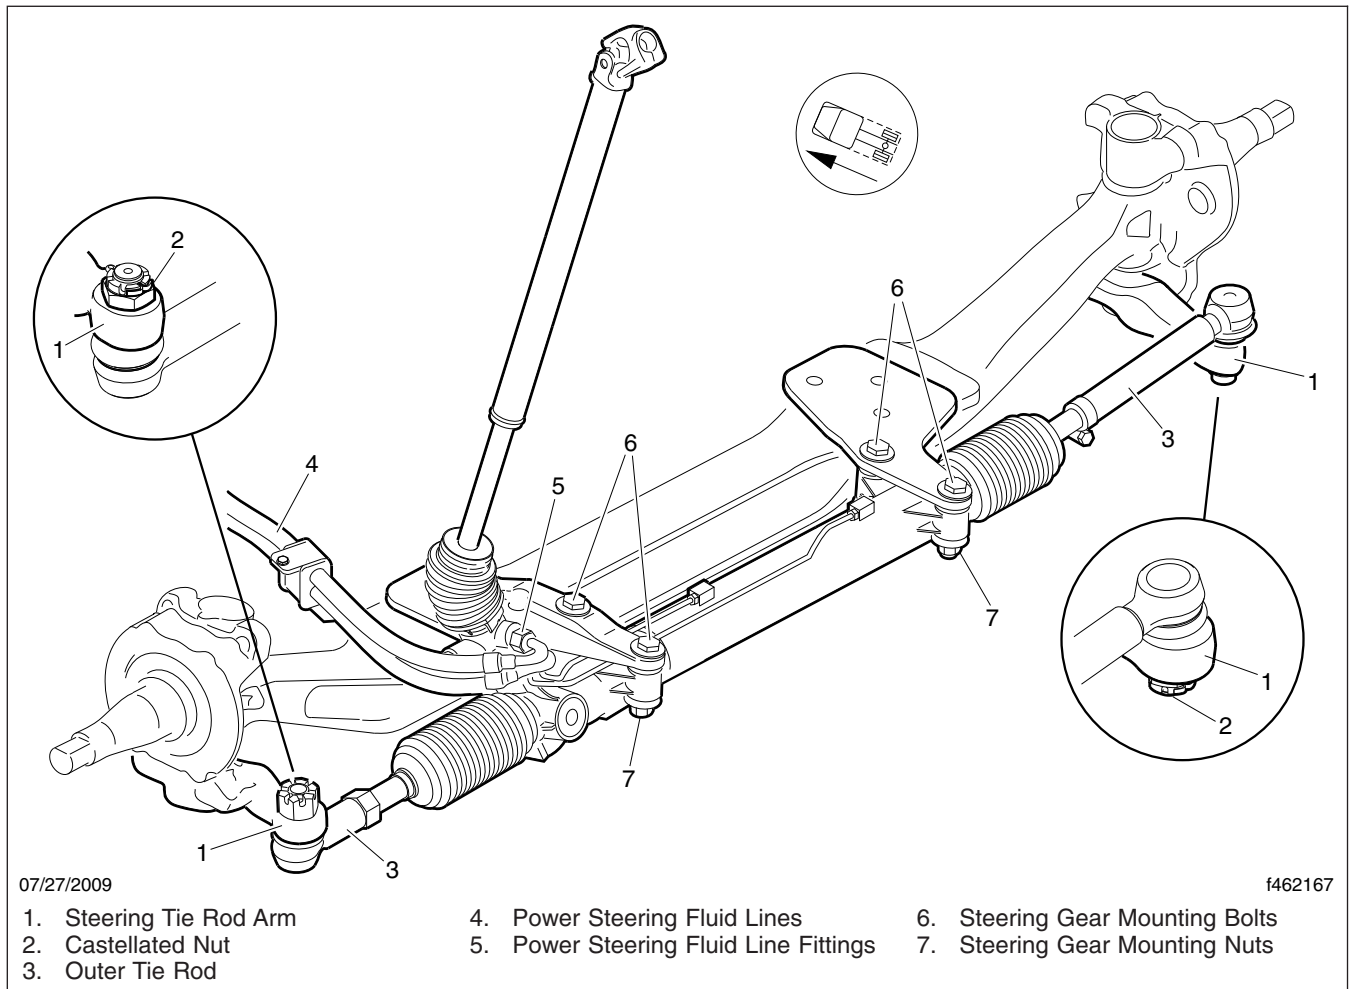
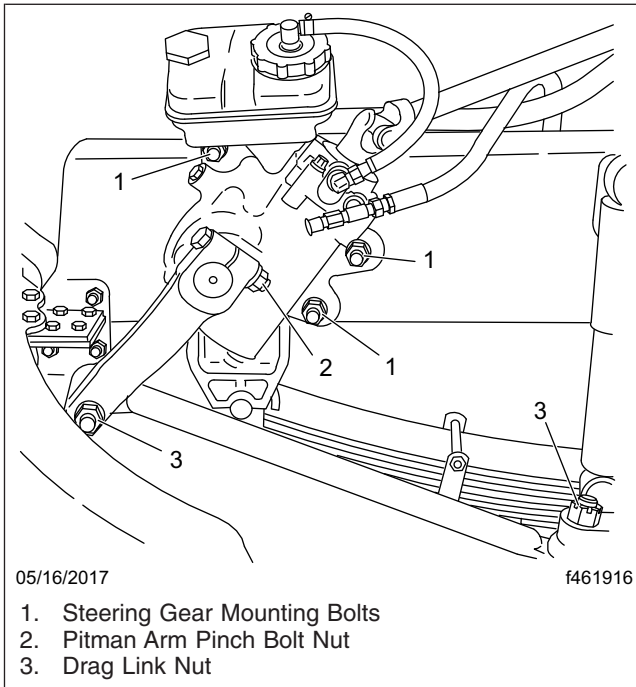

Fig. 21.19, Rack and Pinion Steering Gear Assembly
Fig. 21.20, Integral Steering Gear Fasteners
- 6.1 Inspect tie rods, steering arms, and the drag link for signs of looseness (i.e., shiny spots or rust tracks). See Fig. 21.19 for a rack and pinion steering gear; see Fig. 21.20 for an integral steering gear.